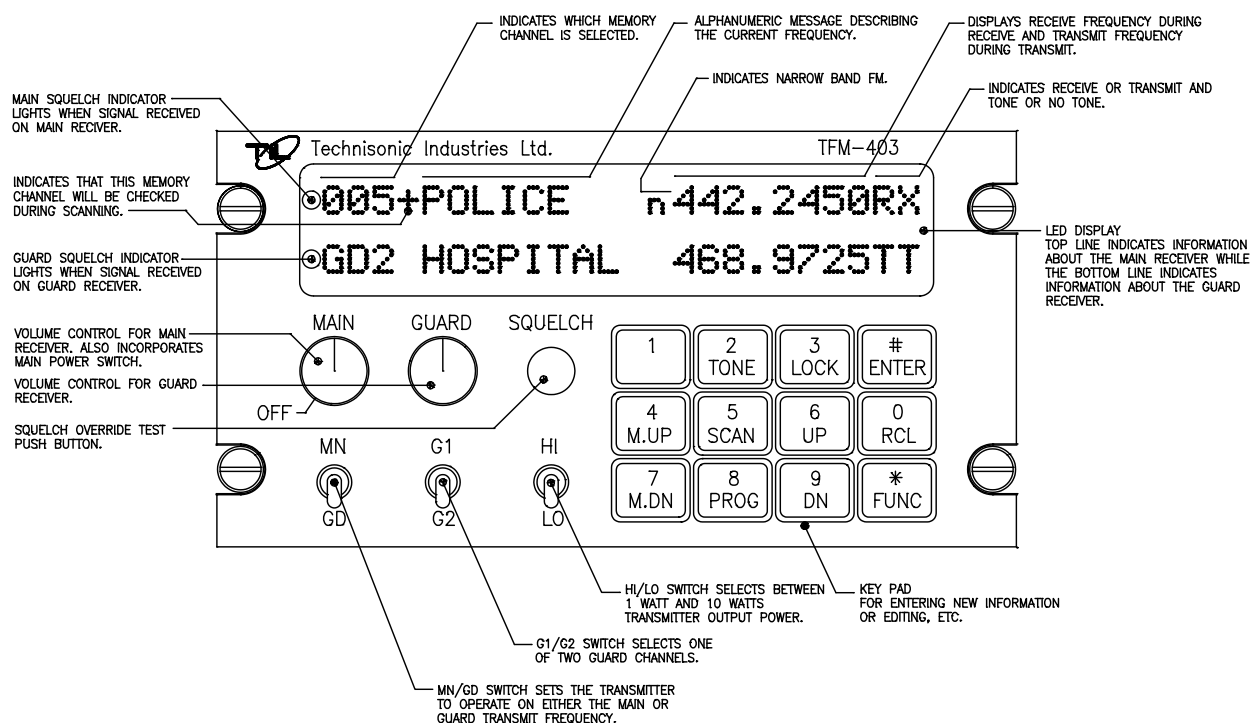

FIGURE 2.1 TFM-403 Operator's Switches and Controls
2.2 OPERATING INSTRUCTIONS (See Figure 2-1)